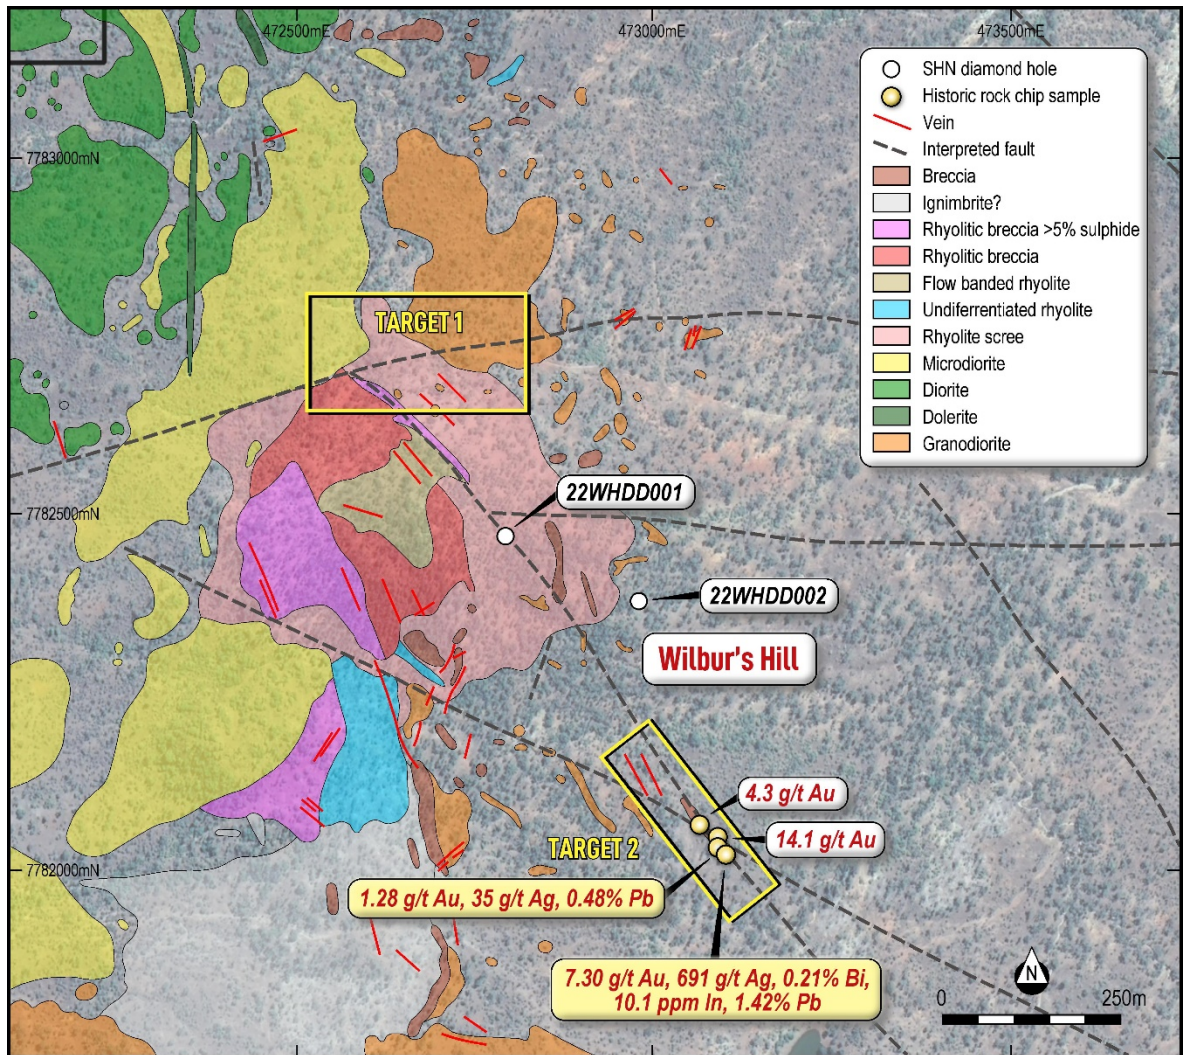

Figure 3. Integrated lithological and structural map of Wilbur's Hill showing recent drill hole locations, high-grade surface rock chips and Targets 1 and 2.
- b. A comprehensive volcanic facies and structural map reinforces two key targets (Figure 3).